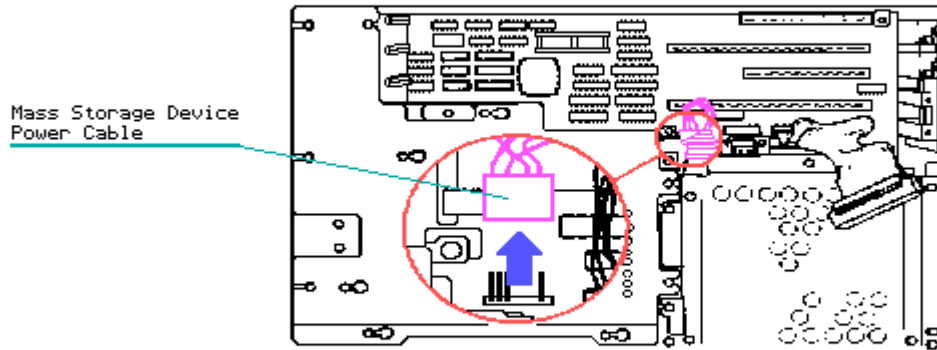

Figure 7-42. Disconnecting the Mass Storage Device Power Cable
4. Using Figure 7-42 as a reference, disconnect the mass storage device power cable.